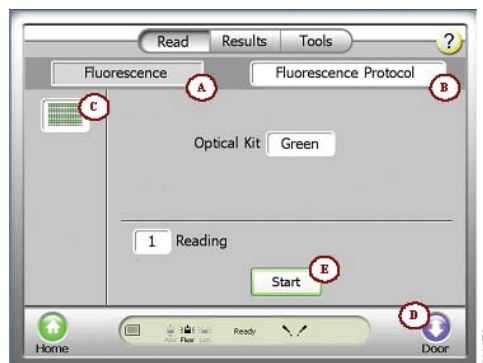

Figure 16. Fluorescence parameters on the Read Screen.
2. Toggle the Detection Mode to Fluorescence. See Figure 16, A.
3. Touch the white text button to select a protocol or modify the displayed parameters. See Figure 16, B.
4. Touch the “Plate” button and select the wells to be read. Green is selected, and gray is deselected. See Figure 16, C.
5. Touch the “Door” button to open the instrument door. See Figure 16, D.
7. Touch the “Door” button to retract the sample plate back into the instrument (Figure 16, D).
8. Touch the “Start” button. See Figure 16, E.